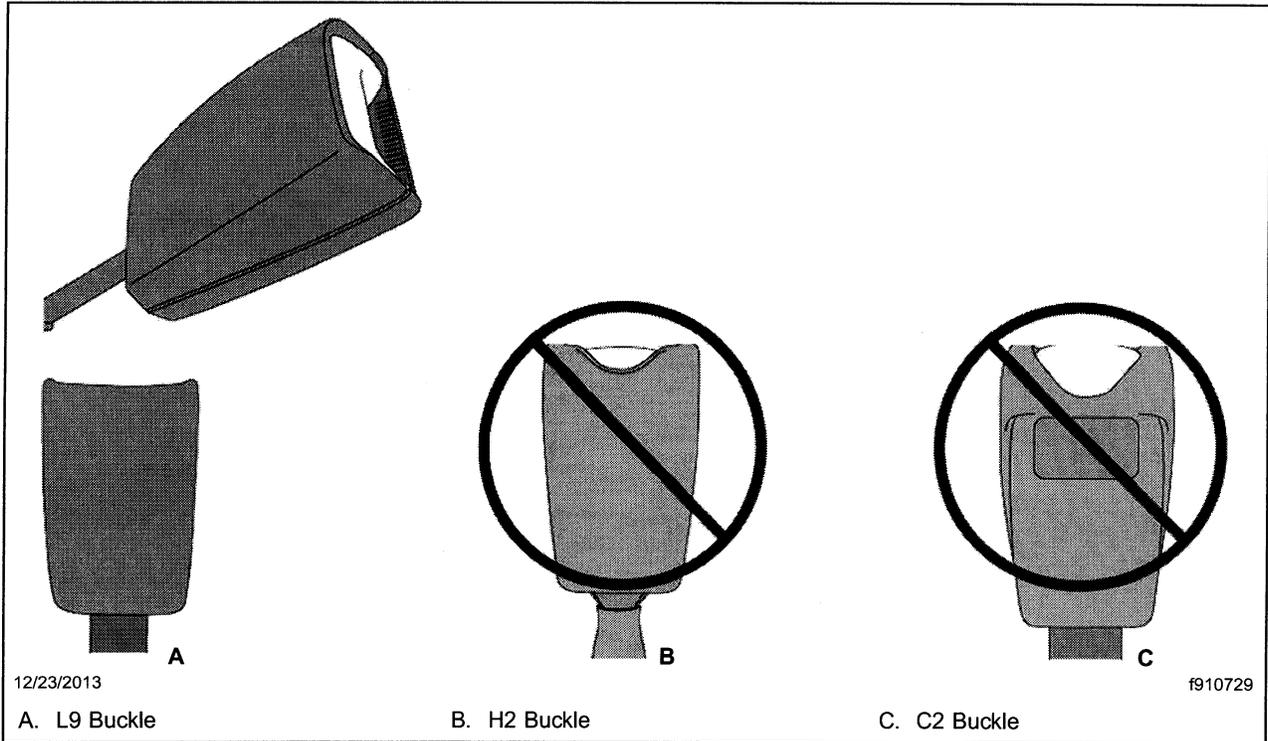

Fig. 2, IMMI L9 Buckle Identification
4. Verify that the buckle is an IMMI L9 buckle. Only IMMI L9 buckles are affected by this recall. See **Fig. 2**.